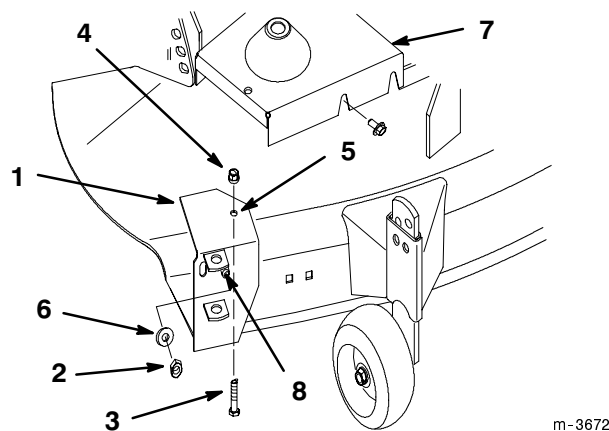

Figure 6
1. Slide the pivot support over the threaded stud welded to the front of the mower near the discharge opening. Use the inside slot on the pivot support so that the pivot support is closest to the discharge opening (Fig. 6).
2. Align the pivot support parallel with the front curved edge of the mower deck and tight up against the top of the mower. (Fig. 6). Clamp the pivot support in this position.
4. Secure the pivot support to the mower with a 5/16 x 3/4" (19 mm) bolt and a 5/16" flange nut (Fig. 6).
5. Place a 3/8" jam nut (removed from the discharge chute) and 3/8" washer snug onto the stud. Do not overtighten the jam nut (Fig. 6).
6. Remove the mower belt cover from the right side pulley (Fig. 6).